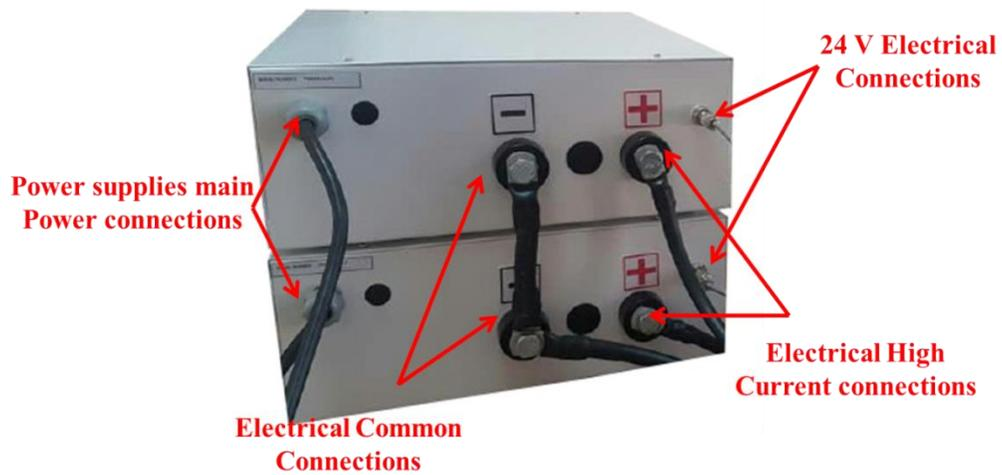
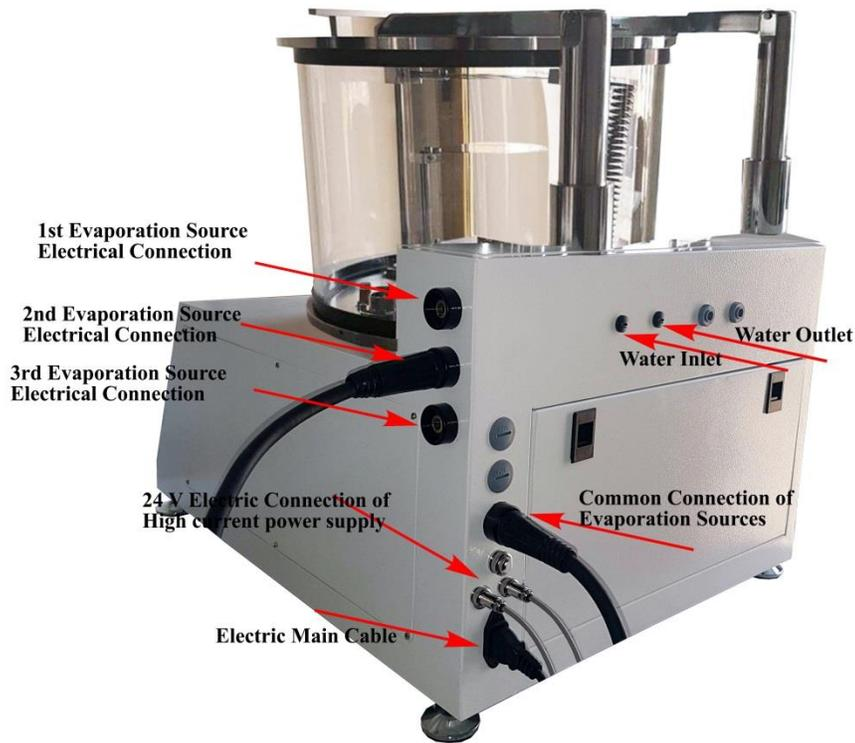

Figure 3-12: High Current Power Supplies (Back view)
Figure 4-2: Back Side view of DTT
1. Connect Common, high current and 24 V cables to the right place on the metal box.(see the Figure 3-12 and Figure 4-2)